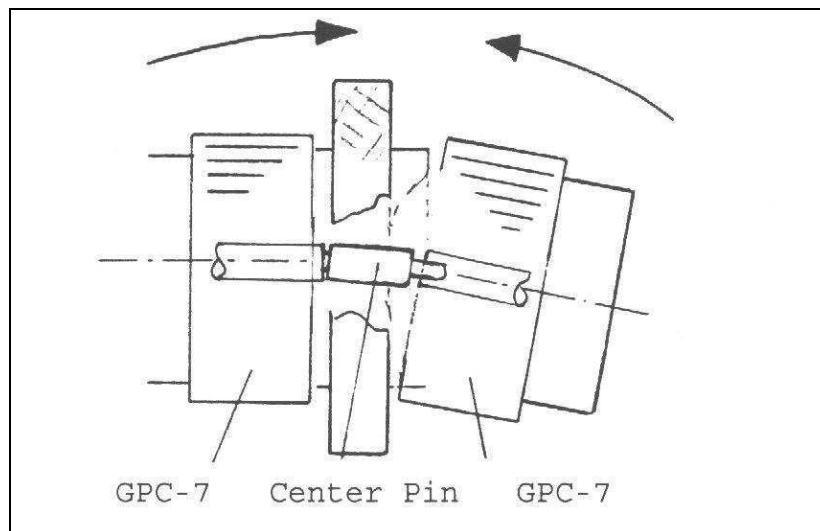

Figure 3: Final assembly of Delay Line
4. Approach the right GPC-7 connector under angle and make sure the mobile centre pin is well placed in the central conductor of the right GPC-7 connector (Figure 3).